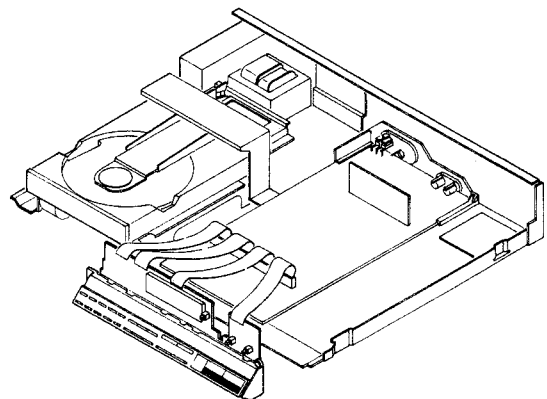

Fig. 29
5. Shift it as in Fig. 29 and check.